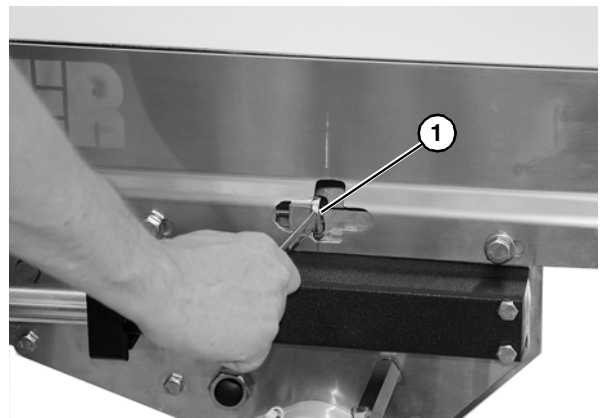

Figure 56
3. Rotate the tracking bolt (**Figure 56, item 1**) in small increments, each time inspecting the belt as it exits the center drive. Continue to rotate the tracking cam until conveyor belt is tracking normally.